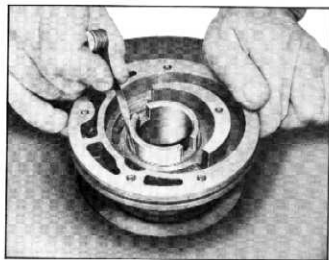

Fig. 186—Clearance Pump Body Bushing to Converter Pump Hub
- body bushing and converter pump hub (fig. 186). Maximum clearance .007".